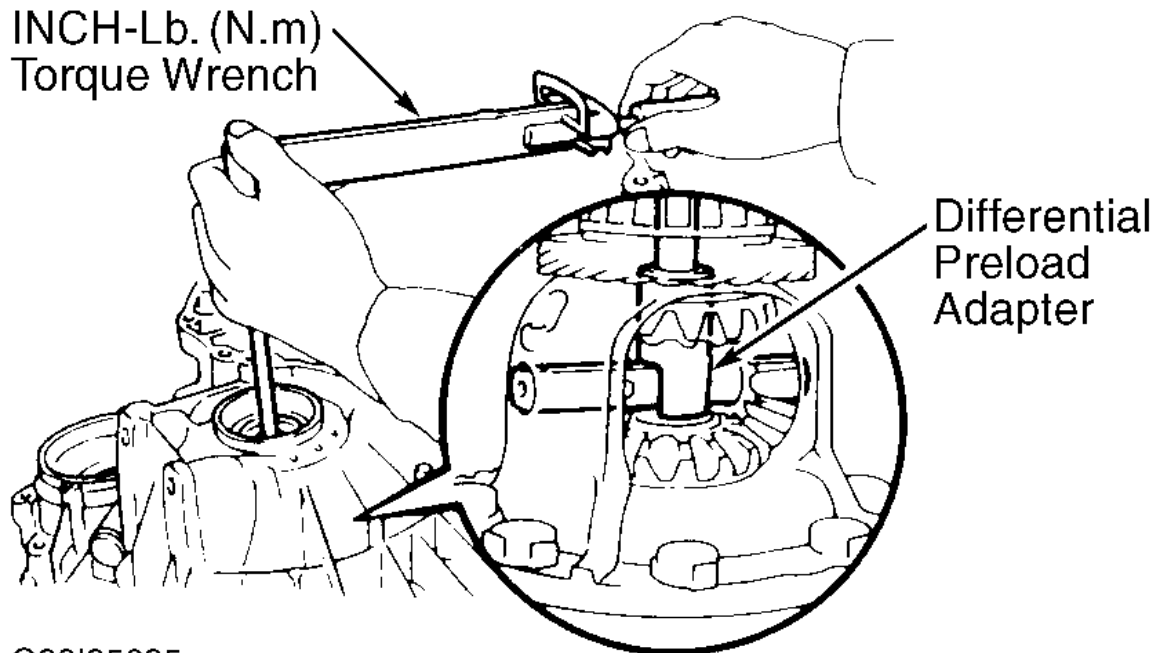

Fig. 75: Measuring Differential Bearing Preload
4. Install differential in transaxle case. Install transaxle housing. Install bolts in correct locations and tighten bolts to 21 ft. lbs. (29 N.m). See Fig. 74 . Measure differential bearing preload, using Differential Preload Adapter (09564-32011) and an INCH-lb. torque wrench. See Fig. 75 .